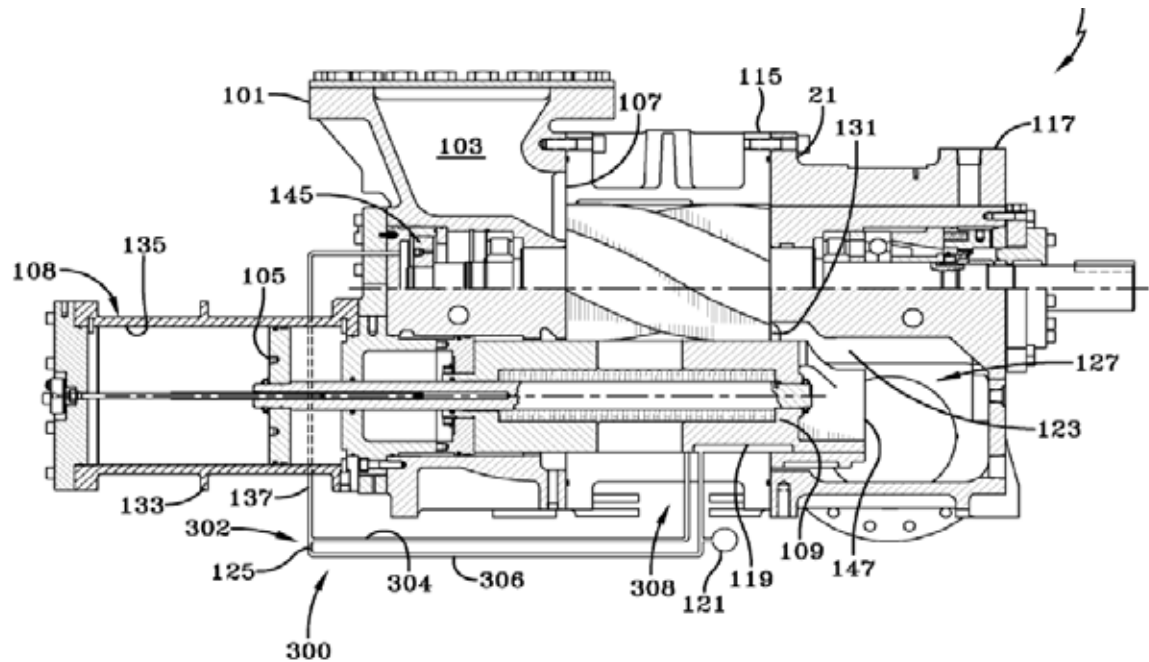

Figure 7
The complexity of this design can be reduced by regulating the pressure acting on the balance piston (item 145, Figure 7) using the position of the capacity slide valve. When the compressor is unloaded, the fluid pressure applied to the balance piston is reduced, thus reducing the force of the balance piston and the load on the bearings during unloaded operations.